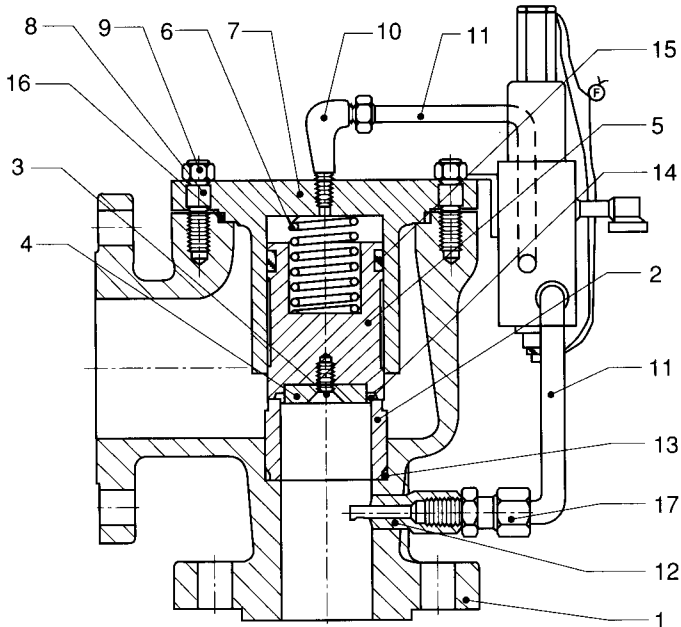

Fig. 5.1
For 1", 1-1/2" and 2" inlet size: (Figure 5.1)
- Refer to Figure 5.1 for construction details.